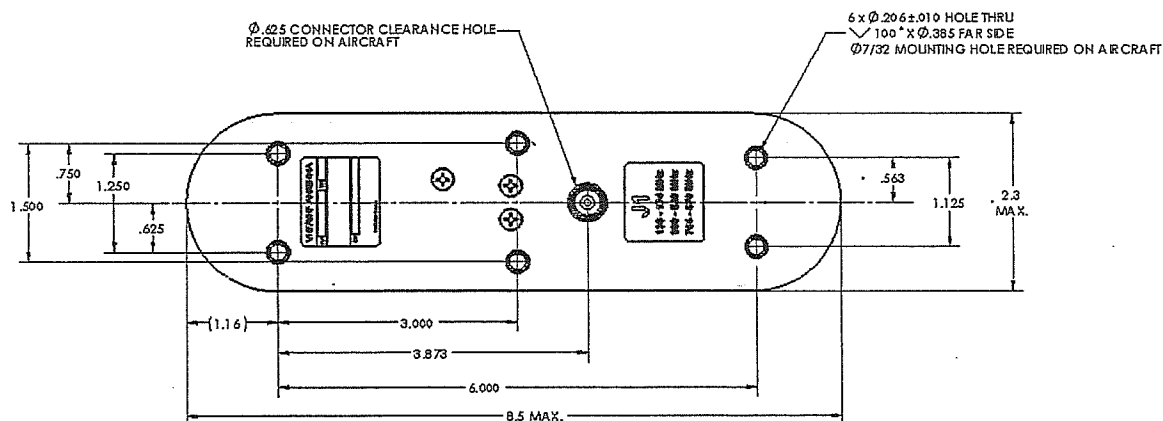

FIGURE 1 - CI 295-300, Antenna-VHF/UHF, Mounting Footprint
2. Drill holes in aircraft skin per the footprint shown in Figure 1 for the CI 295-300 Antenna-VHF/UHF. There are six  $\varnothing.206 \pm .010$ , 100° countersunk X  $\varnothing.385$ " mounting holes in the antenna base. Clearance holes for the mounting screws in the aircraft skin are  $\varnothing 7/32$ ". The clearance hole for both the BNC (F) connector is  $\varnothing.625$ ". **Note:** The illustration in Figure 1 is not to scale and is for reference only. Do not use it as a template for drilling holes.